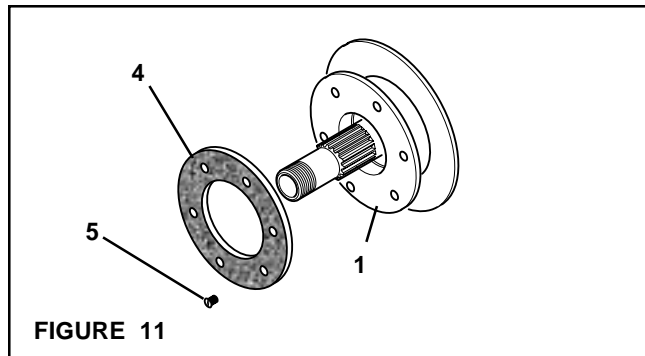

FIGURE 11
24. Remove the six Flat Head Screws (Item 5) and the old Friction Facing (Item 4) from the Drive Disc (Item 1) (See Figure 11).
25. Using six new Flat Head Screws (Item 5), secure the new Friction Facing (Item 4) to the Drive Disc (Item 1) (See Figure 11).